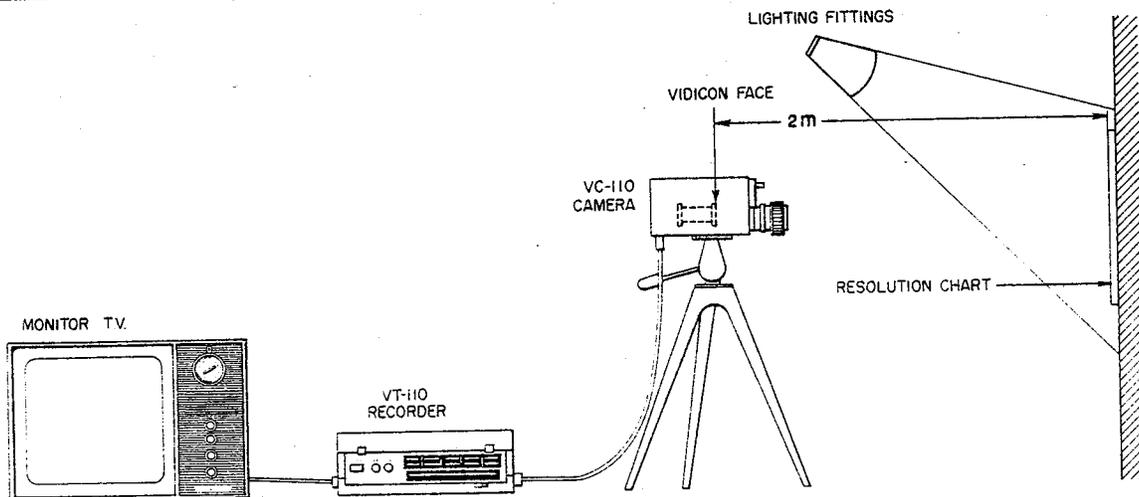
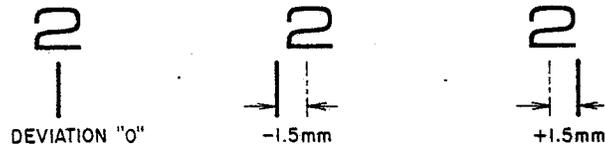

Fig. 1 Preparation For Camera Adjustment
Fig. 5
1. As in Fig. 1, hang a resolution chart on a wall and try to obtain a lighting intensity of 1000 Lux.
Under conditions shown in Fig. 1, set converter lens distance scale to 2 meter position. Rotate master lens until picture image is focused. Deviation of indicator line must be within 1.5 mm from the center of the numeral "2" as shown in Fig. 5.